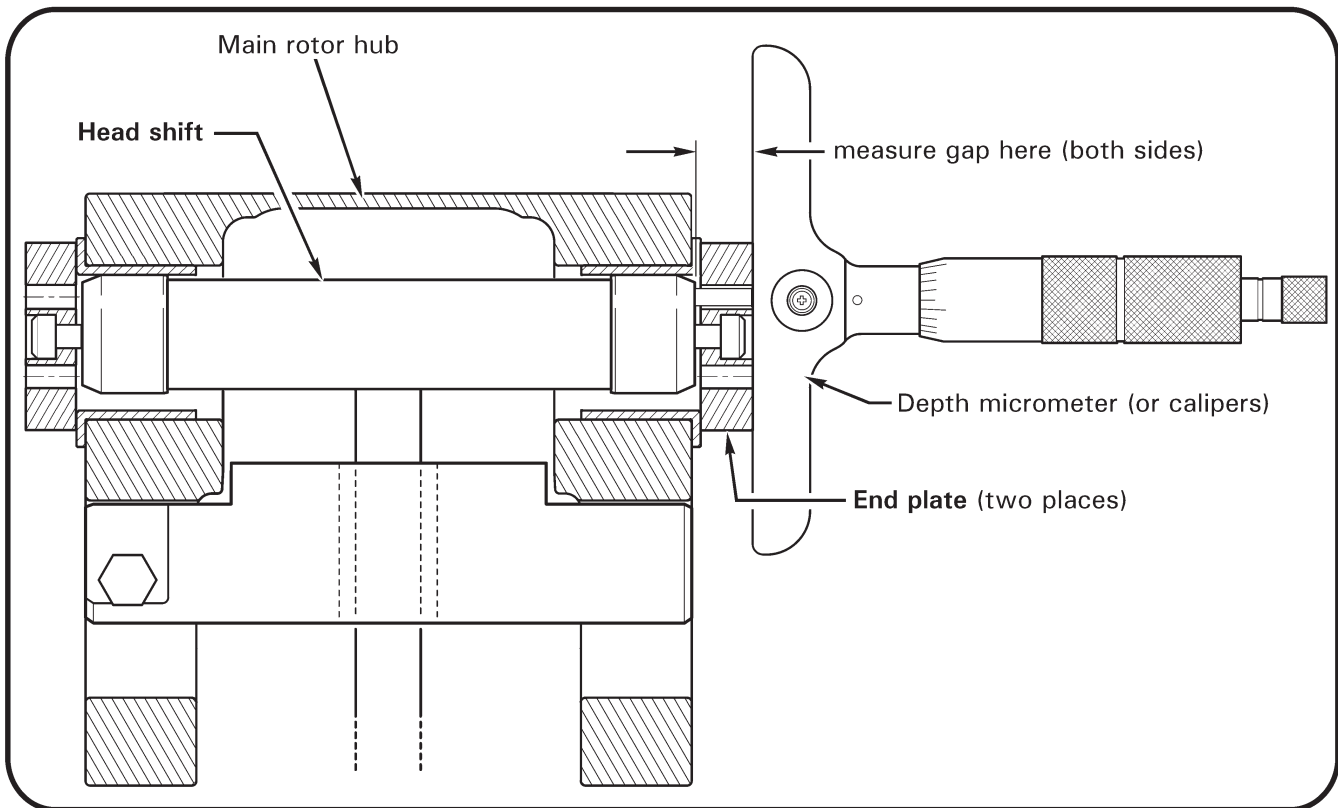

FIGURE 62-8C MEASURING GAP BETWEEN THRUST WASHER AND HUB BEARING
6. Refer to Figure 62-8C. Insert depth micrometer (or calipers) thru (either) hole of MT524-3 end plate until dowel contacts MT524-4 shaft and mark dowel at edge of end plate; repeat on opposite side of hub. Determine side of hub with smaller measured distance and mark top of hub with letter "N" to indicate nut-side of teeter hinge bolt.